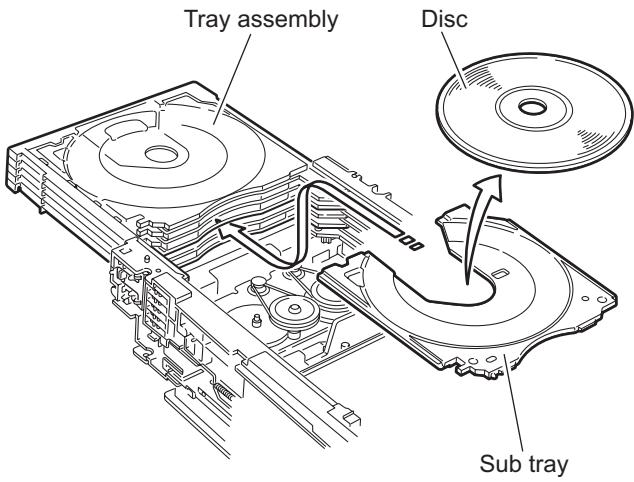

Fig.40
- (5) Take out the disc on the sub tray. (See Fig.40.)